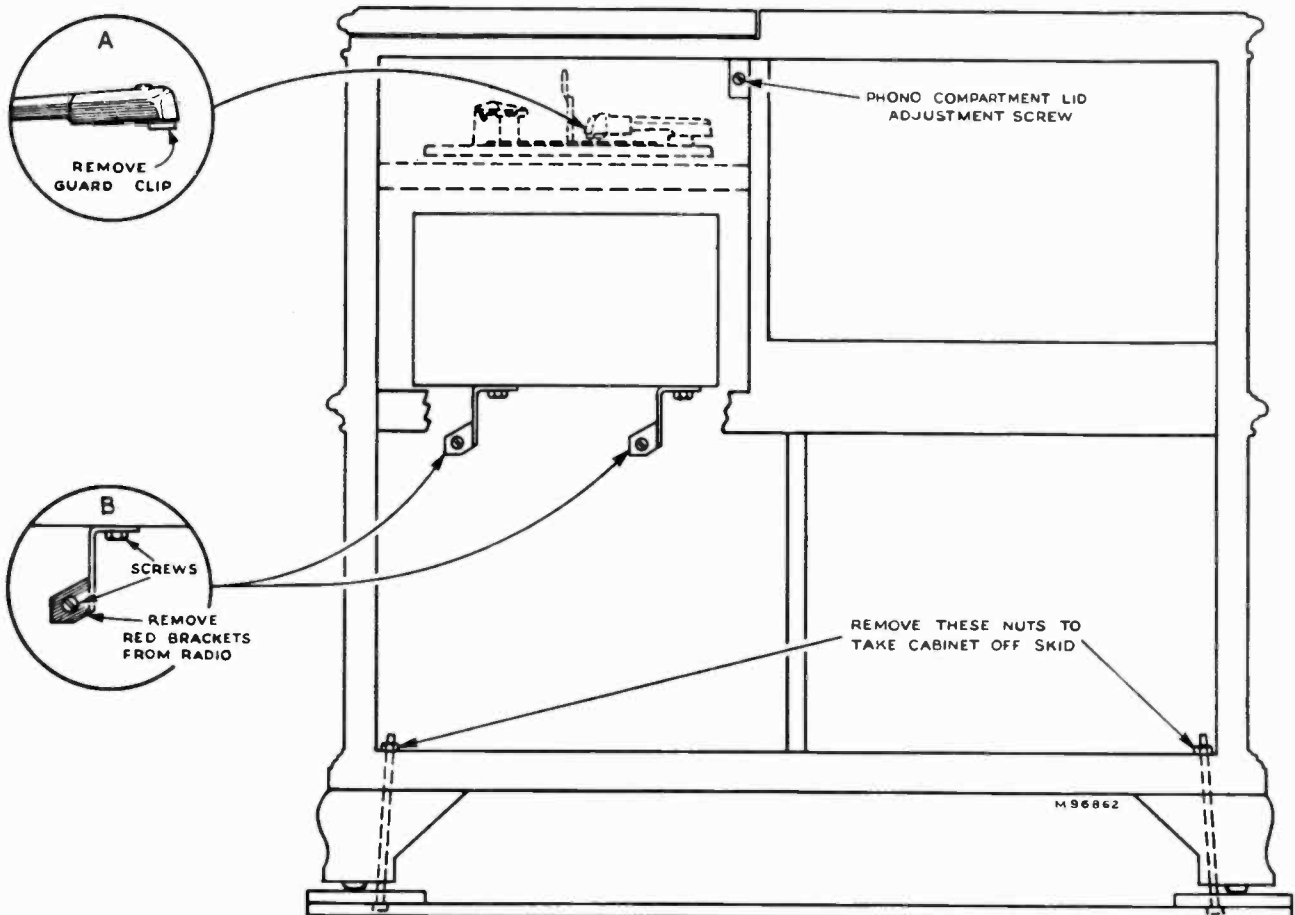

Figure 2—Removal of Shipping Material
A flat skid is attached to the bottom of the receiver cabinet which will permit the cabinet to be moved about without danger of breaking a cabinet leg or stressing the cabinet joints. This skid should be left on the cabinet until the receiver is placed on display or installed in the home. To remove the skid, take off the cabinet back and remove two nuts on the inside of the cabinet as shown in Figure 2. Then, with a man at each end of the cabinet, lift the cabinet off the skid.
**Caution:** The 8TV323 radio panel is held in the closed position by two wood screws in a shipping bracket attached to the radio chassis. The radio panel must not be tipped out until these screws are removed as it may cause the cabinet front to be split or the radio chassis to be badly deformed. Remove the screws shown at Detail B in Figure 2 and take out the two red brackets. Somewhat similar brackets are employed in the 8TV321. These brackets should also be removed.
Loosen the three phillips head shipping screws which may be seen in the top of the record changer motor board. Remove all changer shipping material. Remove the sapphire guard clip from the record changer tone arm as shown in detail A of Figure 2.